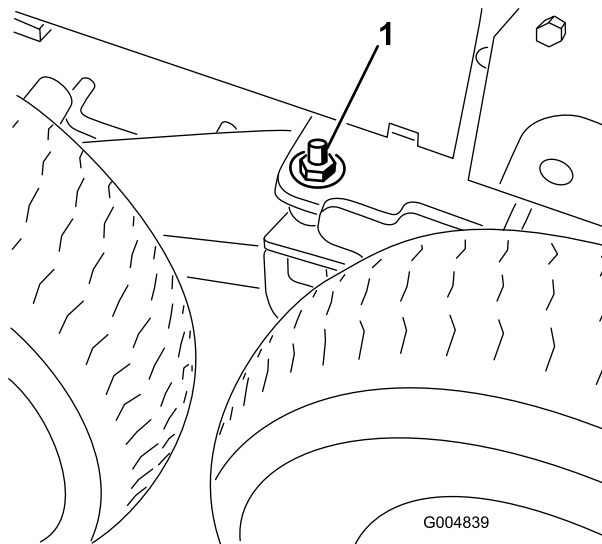

Figure 120
32. Remove the flat washer (1/2 inch) and nut (1/2 inch) installed on the stud on the bogie pivot (Figure 120).
38. Lower the floor jack until the front wheels support the frame. Install the flat washers (1/2 inch) and locknuts on the bogie pivot stud (Figure 120) and torque to 75 ft-lb (102 N·m).